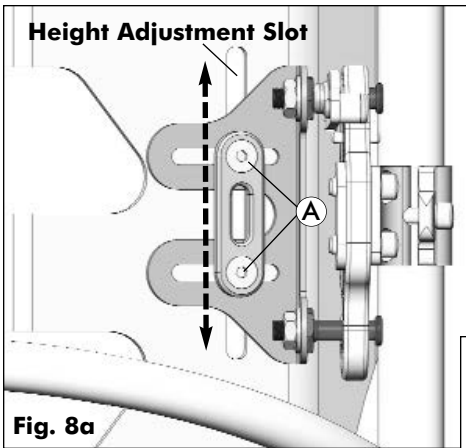
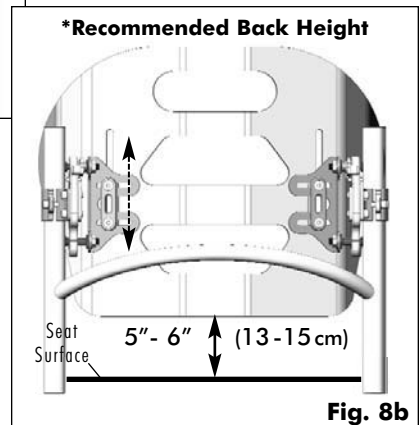

Fig. 8a
Fig. 8b
- 3 **MX2 Height Adjustment:** The MX2 back height can be adjusted as necessary, via the slotted channel in the MX2 Back shell (refer to **Fig. 8a**). The recommended back height* is approximately **5"-6" (13-15 cm)** from the top of the **seat surface** (seat cushion or seat pan; Refer to **Fig. 8b**).